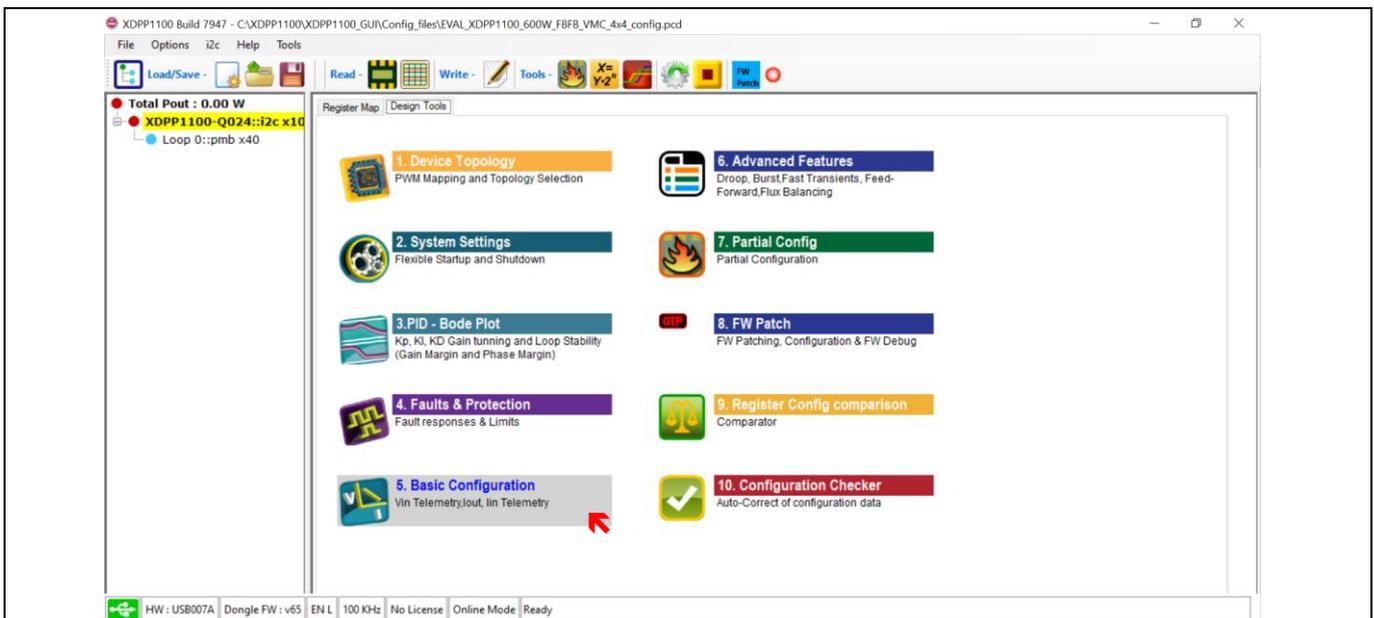

Figure 41 Basic Configuration (V_{IN} telemetry, I_{OUT} , I_{IN} telemetry)
- Click on **XDPP1100-Q024::i2c x10** (highlighted in yellow in Figure 41).